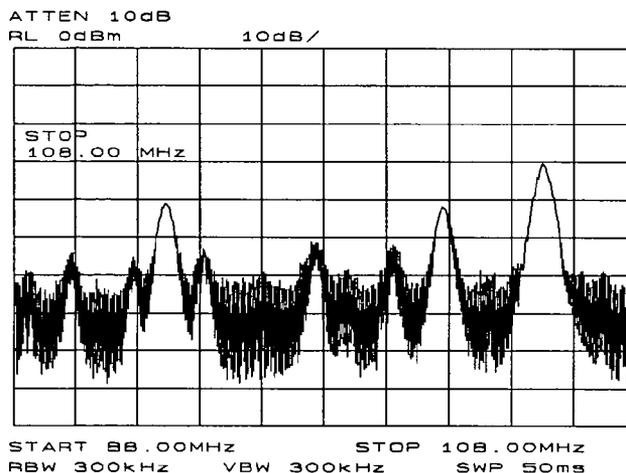

Figure 3-13. FM Band
1. Tune to the FM band by setting the start frequency of the spectrum analyzer to 88 MHz, and the stop frequency to 108 MHz. Press **FREQUENCY**, **START FREQ**, enter 88 MHz, **STOP FREQ**, and enter 108 MHz (see Figure 3-13).